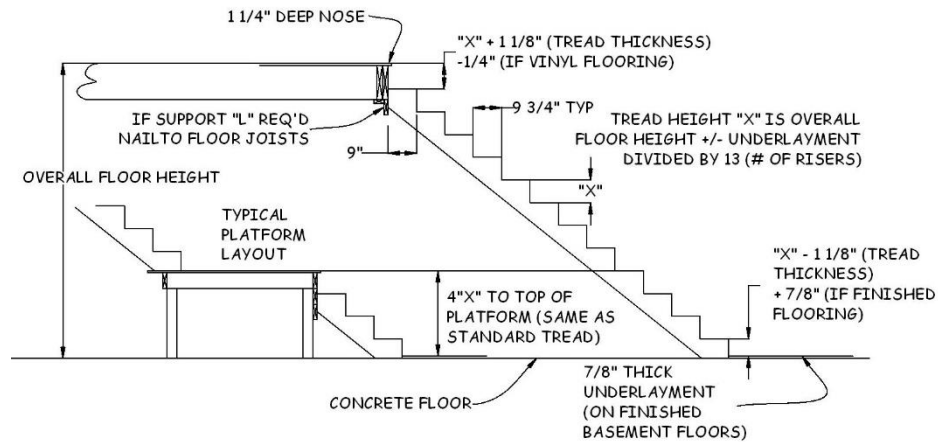

Figure 4-4. Stair Stringer Installation.
4. The last riser at the bottom of the stringer must be reduced by $1\frac{1}{8}$ " (the thickness of the tread). If the basement is to be finished, add $\frac{7}{8}$ " to the height of the riser. (See Figure 4-4.)
12. Referring to the last calculation in Figure 4-2, mark a line on the rim board-lam beam combination at the top of the stairwell opening below which the tops of the three stringers will be placed (Figure 4-4).
1. A landing, if required, is a "joist" box made of 2x6's covered with ¾" floor decking with floor joists installed on 16" centers. (See Figure 4-4.)